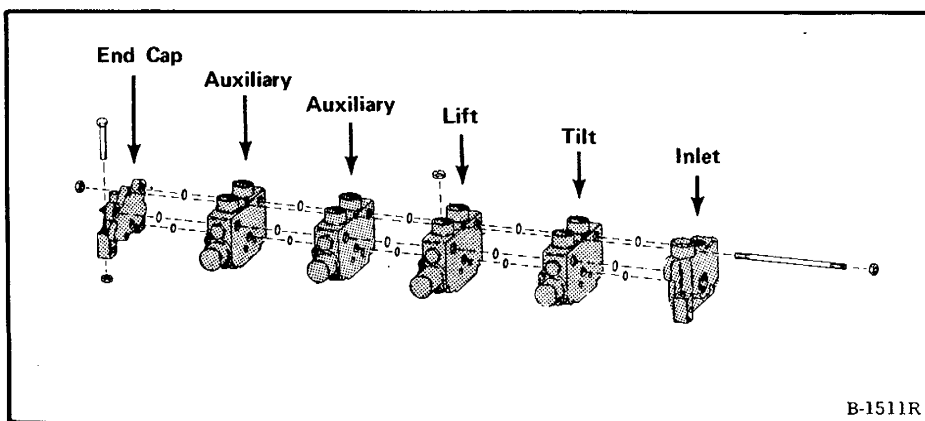
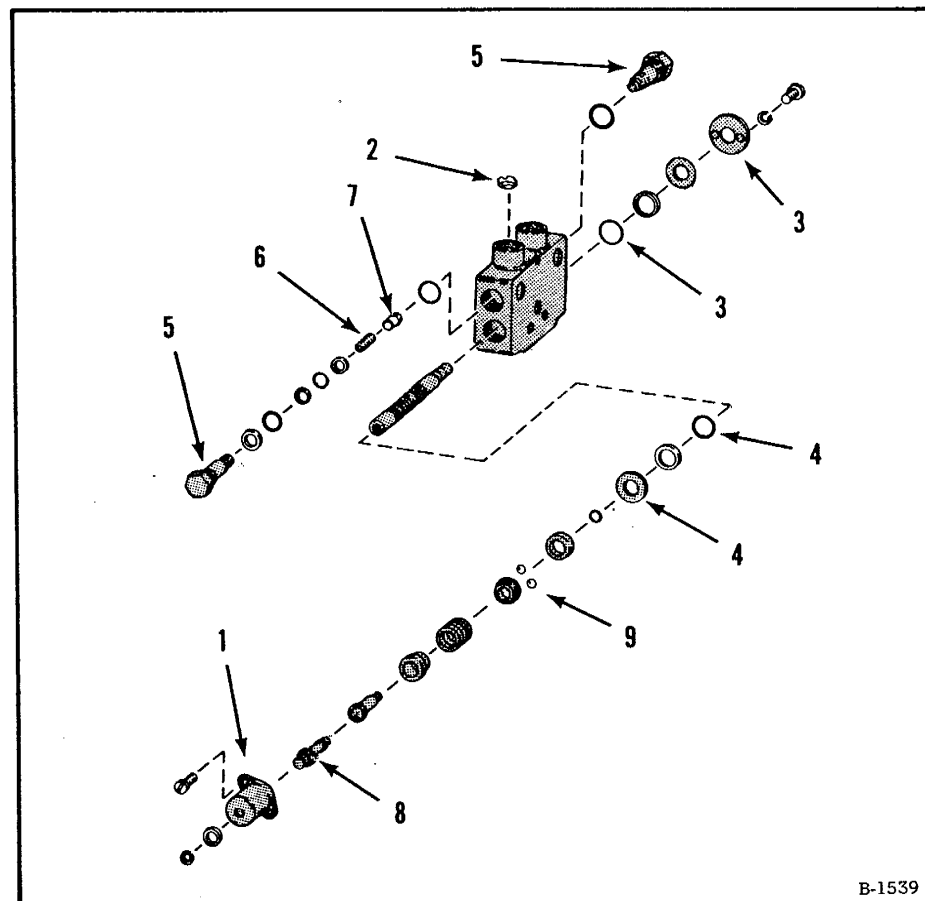

Fig. 2-25 Valve Bank Breakdown
Fig. 2-26 Lift Valve Section with Detent
(Fig. 2-25)
(1) Clean the control valve assembly thoroughly with solvent. Put it on a clean surface for disassembly.
(2) Put a mark on each valve section (1, 2, 3, 4, etc.) to identify them for assembly.
(3) Remove the nuts from the three thru bolts which hold the valve sections together (Fig. 2-25).
(4) Remove each section by sliding it off the thru bolts. Use a soft hammer, if necessary, to break the seal between sections. Remove the O-rings. Clean the machined surface of each section.
(5) If a valve section is to be disassembled, put it in a vise. Be careful not to clamp the machined surface in the vise.
(6) Remove the bonnet from the back of the section (Fig. 2-26, Item 1).
(7) Pull the spool out the rear of the valve section.
(8) Remove the front seal plate and O-ring (Item 3). Remove the rear seal retainer and O-ring (Item 4).
(9) Remove the large hex plugs (load check valves) (Item 5) located above the spool bore, on each end of the valve section. Carefully remove the springs and the poppets (Items 6 & 7).
(10) Wash all the parts in solvent and put them on a clean surface.